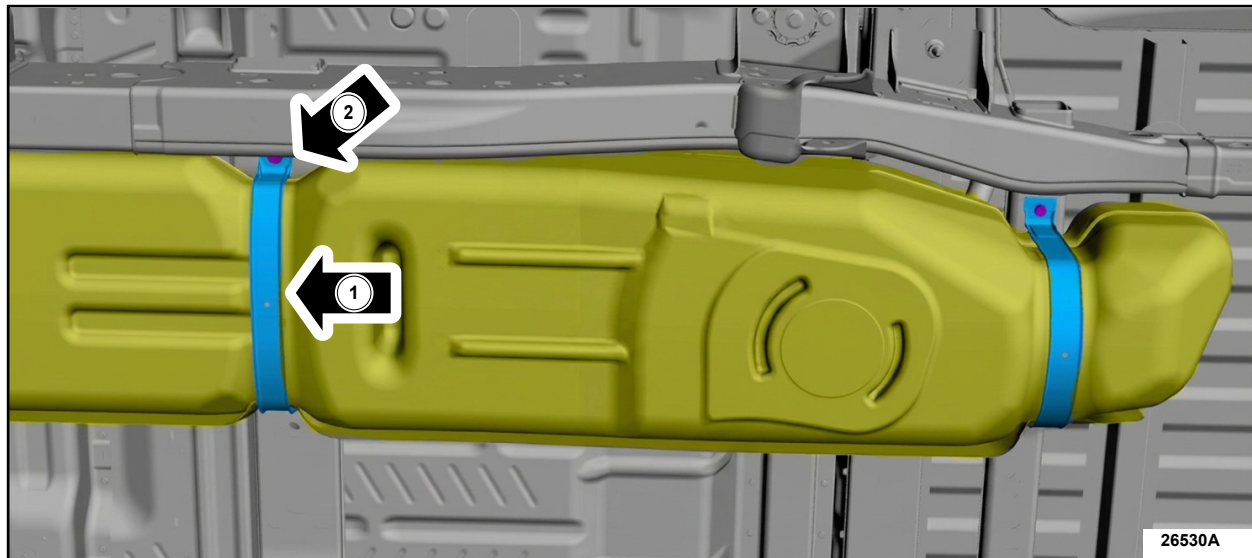

FIGURE 1
2. Visually inspect the rear fuel tank strap (1) and fastener (2). See Figure 1. Confirm the fastener is present and that it is holding the tank strap tight against the frame. If any issues are found with fastener side of the tank, contact the Special Service Support Center (SSSC) for direction. (Skid plate not shown. Skid plate removal NOT required for inspection.)